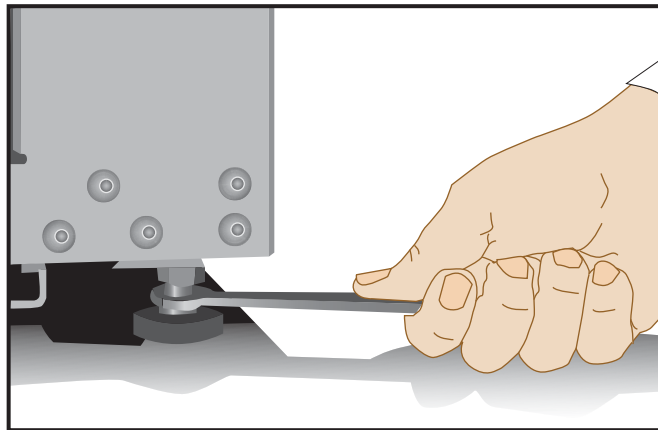

Figure 1-8 Leveling Bolts
2. Adjust the leveling bolts of a rack, as shown in Figure 1-8, until the rack is level.